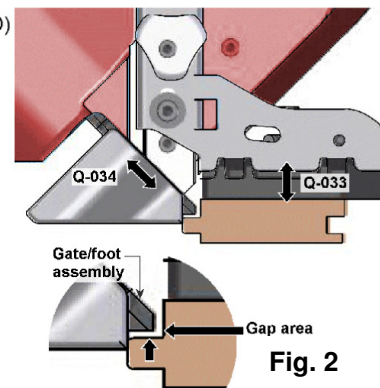

Fig. 2
4	Adjust the height of the shoe base to obtain a small gap between the gate/foot assembly and the top side of the tongue of the sample board. A gap of 1/32", about half the thickness of the nail, should be adequate for most situations as shown in (Fig. 2).
2	With the Short piece of flooring still against the gate/foot assembly, adjust the gap between the resting block Q-034 and the flooring tongue with screw (D). A small gap of 1/32", about half the thickness of the nail, should be adequate for most situations as shown in (Fig. 2).